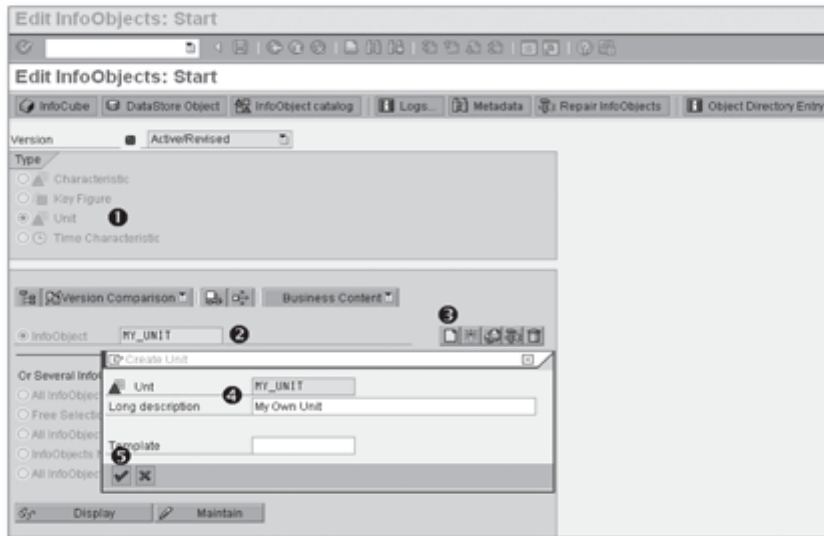

Figure 3.49 Creating a Custom Unit InfoObject
1. Use Transaction RSD1 to open the Edit InfoObjects: Start screen (Figure 3.49).
2. Select Unit from the Type area (❶ of Figure 3.49).
3. Enter the technical name for the unit (❷).
4. Click on the Create icon (❸).
5. In the Create Unit box, enter the long description (❹).